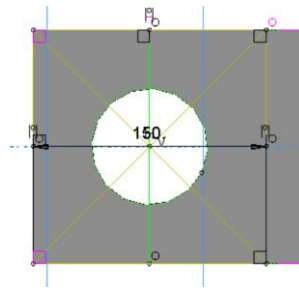

Figure 3-12 – Sketch of final partition face around the hole.
10. Use the Create Lines tool () to draw lines along the horizontal, vertical and diagonal of the rectangle. See Figure 3-12.